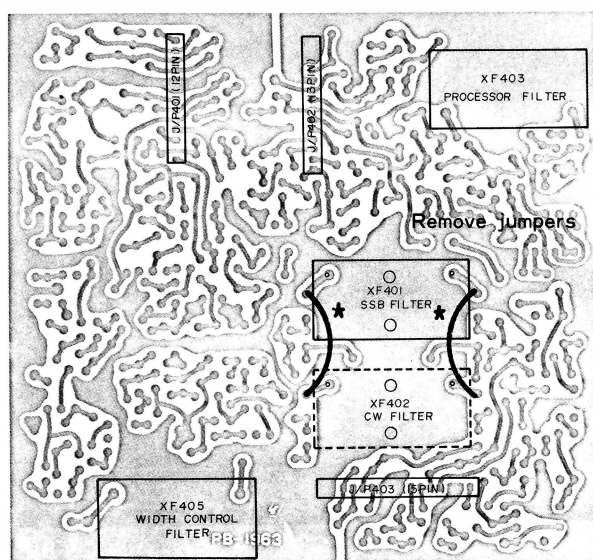

Figure 3
- (4) Install the optional CW filter as shown in the foil side view of the IF unit (Fig. 3). Make the fastening nuts snug, and solder the pins of the filter to the circuit board, and remove the 2 jumper wires shown in Figure 3.